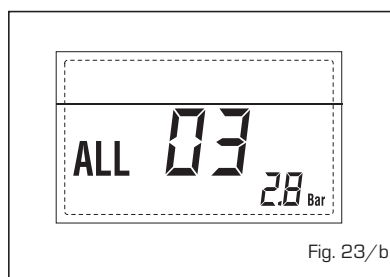

Fig. 23/b
– D.H.W. SENSOR ALARM 04 (fig. 23/c)